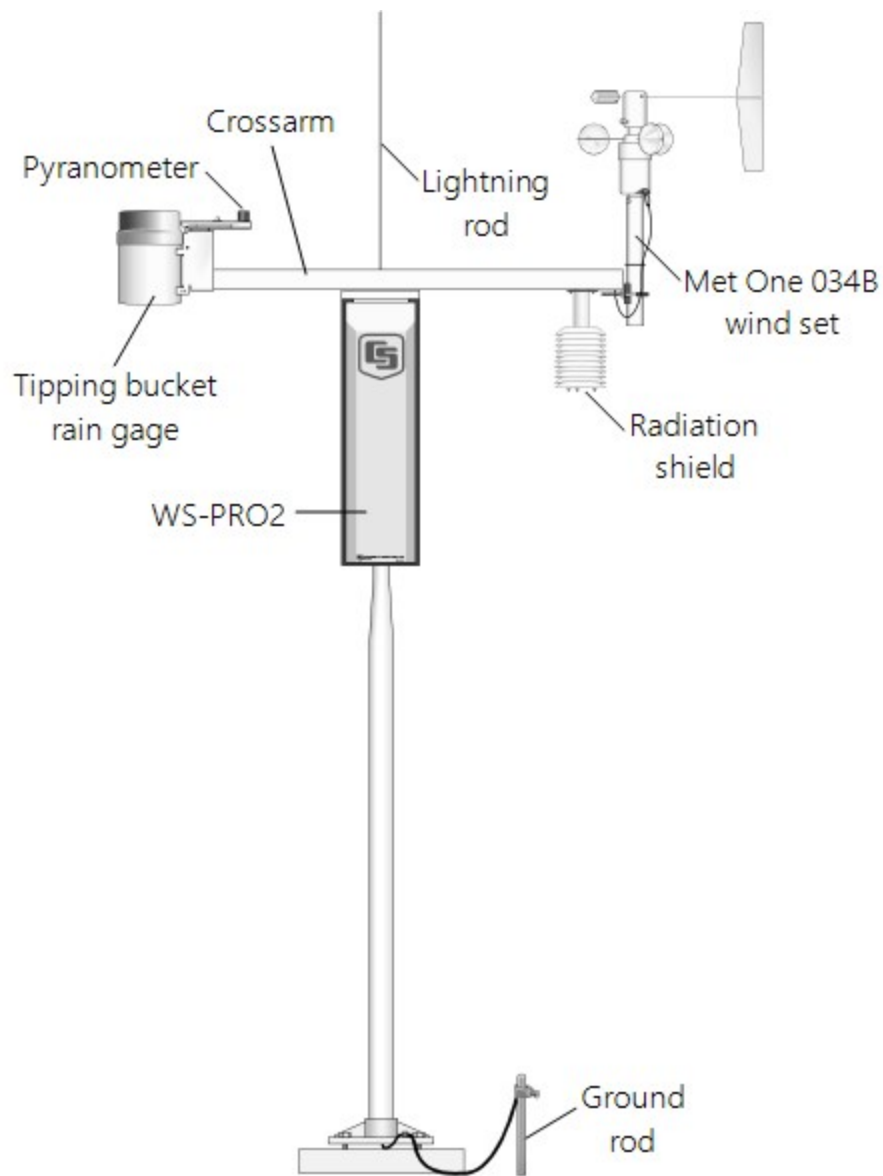

FIGURE 6-8. WS-PRO2 instrumentation mounted on the WS-PRO2 pole
- (1) WS-PRO2 crossarm with sensors (FIGURE 6-8 (p. 22))